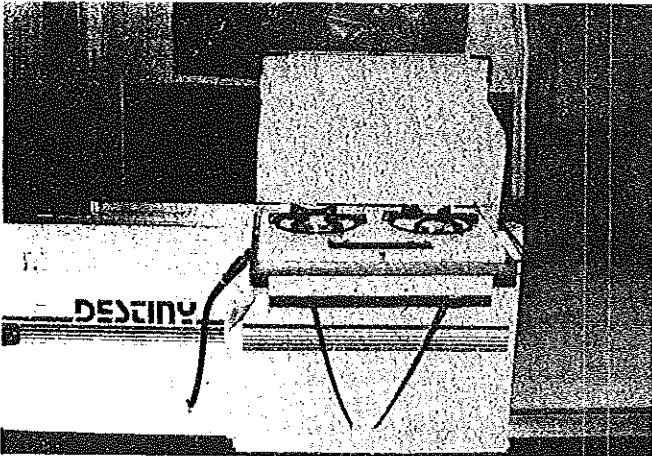

FIGURE 39
42. Position the stove mounting bracket removed in Step 41 onto the two retaining loops located on the bottom front of the stove module. Tilt the stove slightly upward and engage the bottom portion of the mounting bracket on to the metal bracket located on the lower section of access door. See Figure 39.
43. Open the utility port on the curbside body panel and expose gas line. See Figure 39.